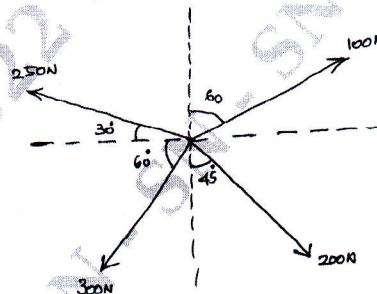

Fig Q4(b)
b. Determine the magnitude and direction of resultant of forces shown in Fig Q4(b).